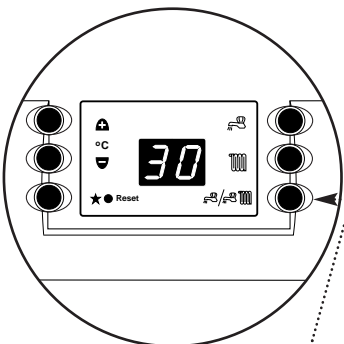
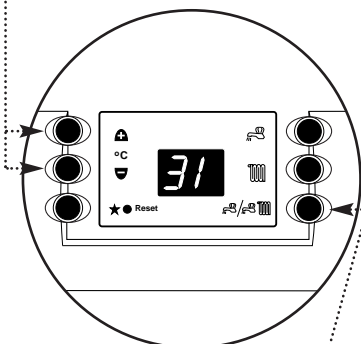

Fig. 42
Fig. 43
4. Press the Summer/Winter Mode Button marked () until the display shows "30" (Fig. 42). The "3" indicates that the installer parameter for system frost protection has been selected. The "0" indicates that the system frost protection is switched off. Press the "+" Temperature Control Button until the display shows "31" (Fig. 43). The "1" indicates that the system frost protection is switched on. 1 minute after the parameter has been set the display will revert to normal operation.
6. Press the Summer/Winter Mode Button marked () until the display shows "31" (Fig. 43). The "3" indicates that the installer parameter for system frost protection has been selected. The "1" indicates that the system frost protection is switched on. Press the "-" Temperature Control Button until the display shows "30" (Fig. 42). The "0" indicates that the system frost protection is switched off. 1 minute after the parameter has been set the display will revert to normal operation.